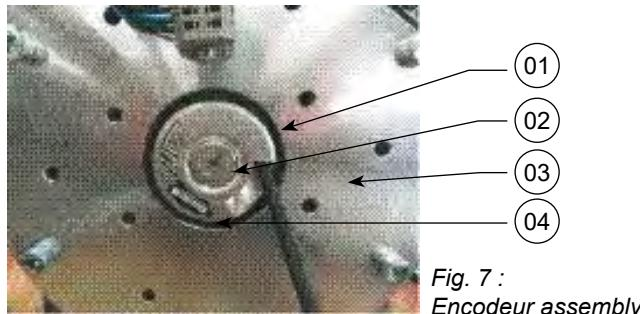
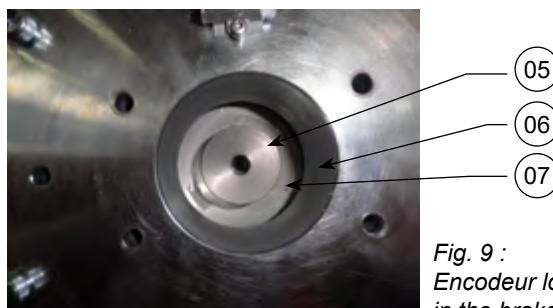

Fig. 7 :
Fig. 9 :
- Identify the encoder by means of the reference indicated on the encoder label (Fig. 7)
Important: Do not dismantle the brake (Ref. 3 fig. 7) which is centre-mounted towards the rotor in the factory at a tolerance of 0.1 mm by using a special tool. The encoder is located in the brake with bore Ø65 (Ref. 6 fig. 9) towards the motor shaft (ref 7 fig. 9)
- Unscrew (2 turns with spanner SW2) the fixing screw of the coupling of the encoder (Ref. 1 fig. 7) in the location of the encoder in the brake.
- Remove the plug (Ref.2 fig. 7) from the encoder (spanner SW4 or screwdriver).
- Introduce the drive sleeve of the encoder (Ref. 5 fig. 9) on the motor shaft (Ref. 7 fig. 9). Make sure its position is right by hitting it gently with a drift and a hammer.
- Introduce the encoder in its location in the brake (Ref. 6 fig. 9), then tighten the central socket screw M5x50 (dynamometric spanner SW4) at torque 5 Nm 0/+0.5 Nm. Secure the screw with removable threadlocker, 3 times at maximum.
- Tighten the small socket screw Chc M2.5 (Ref 1 fig. 7) (SW2 torque wrench or screwdriver) of the tightening screw of the coupling of the encoder to a torque of 1.25 Nm 0/-0.2 Nm.
- Retighten the encoder plug (Ref. 2 fig. 7), (SW4 spanner or screwdriver).